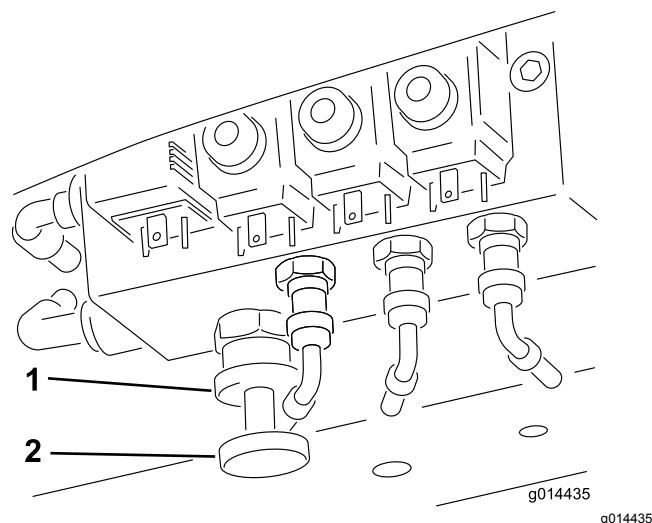

Figure 36
**To engage weight transfer:** The amount of weight transfer can be varied to suit operating conditions by rotating the weight-transfer hand wheel (Figure 36) as follows:
1. Release the valve locknut 1/2 turn counterclockwise and hold (Figure 36).
2. Rotate the valve hand wheel (Figure 36) counterclockwise to reduce weight transfer or clockwise to increase weight transfer.